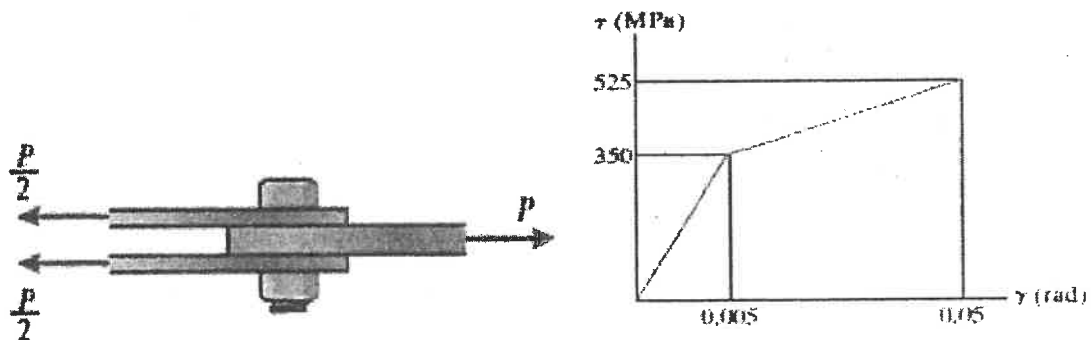

Figure 2
- (a) The lap joint is connected using a 30 mm diameter bolt. The bolt is made from materials having a shear stress-strain diagram as shown in Figure 2. Determine the shear strain developed in the shear plane of the bolt when $P = 340 \text{ kN}$.